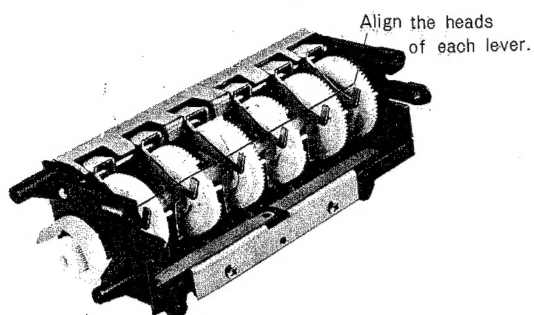

Fig. 15
- 2) Rotate each gear to the right and align the levers (pushbutton) to the same position. (See figure 15)